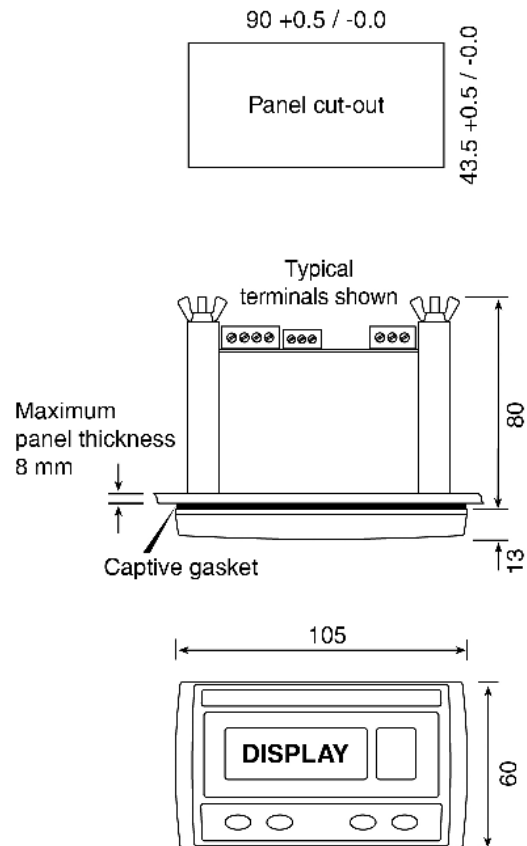

Fig 3 Dimensions
Fig 3 shows the overall dimensions of the BA627E-SS together with the recommended panel cut-out dimensions and terminal identifications. To achieve an IP66 seal between the instrument enclosure and the instrument panel an aperture with the recommended tolerance should be used.
- Cut the aperture specified in Fig 3 in the panel enclosure. Ensure that the edges of the aperture are de-burred.